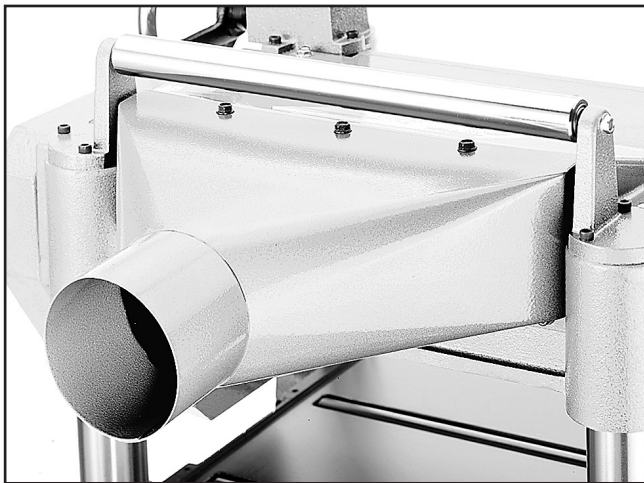

Figure 8. Dust port attached.
1. Secure the dust port to the planer upper cover with the hex bolts, hex nuts, and flat washers, as shown in **Figure 8**. It will be necessary to reach inside the port opening with a wrench to hold the nut while tightening the hex bolts.